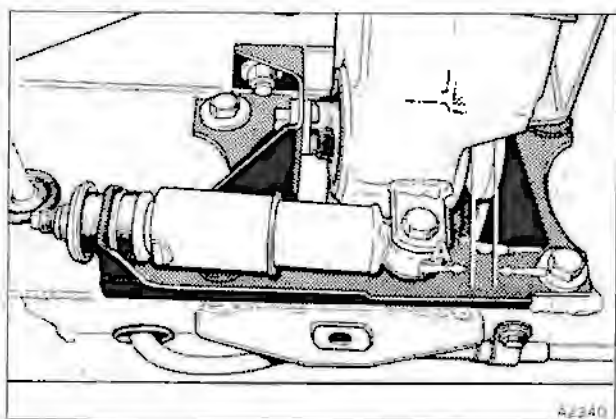

Fig. H9-3 Rear crossmember mount setting
3. Check the rear crossmember setting (see fig. H9-3) as described in Section H9 under Rear crossmember mounts – To renew.
16. Fit the long mounting bolt with the washers positioned as shown in figure H9-3.